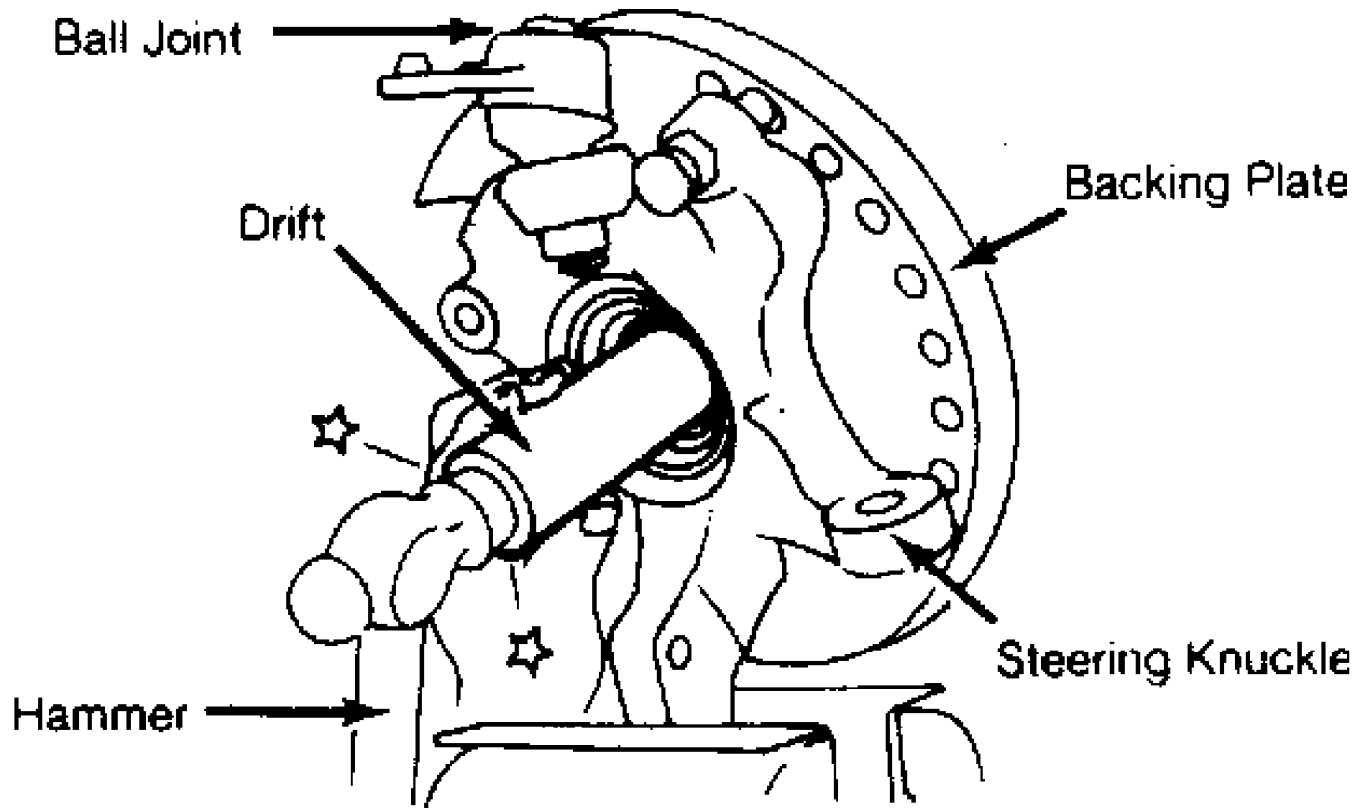

Fig. 5: Separating Hub & Steering Knuckle
1) Raise and support vehicle. Remove hub and knuckle assembly. See HUB & KNUCKLE ASSEMBLY under REMOVAL & INSTALLATION. Place assembly in a soft-jawed vise. Drive hub and inner race from steering knuckle. See Fig. 5. Press inner race from hub.